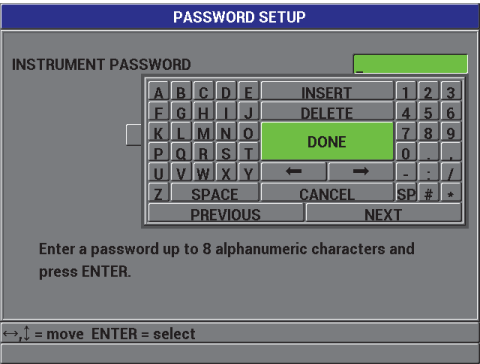

Figure 5-10 The PASSWORD SETUP screen
2. In the **PASSWORD SETUP** screen (Figure 5-10 on page 100), using up to eight alphanumeric characters, enter your password in the **INSTRUMENT PASSWORD** field.